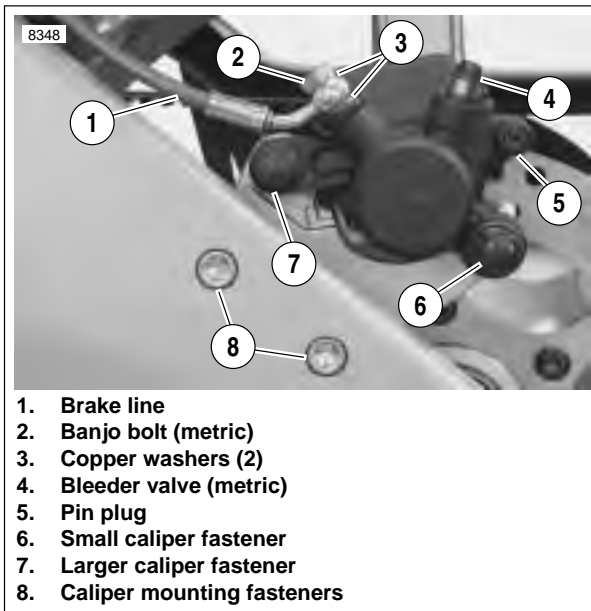

Figure 2-57. Rear Brake Caliper
4. See Figure 2-57. Connect brake light switch connector beneath seat. See D.1 HOSE AND WIRE ROUTING for brake line routing.
3. See Figure 2-57. Remove caliper mounting fasteners (6 and 7).
1. See Figure 2-57. Remove pin plug (5) and pad hanger (metric) to free brake pads.
1. See Figure 2-57. Install caliper assembly on caliper mount. Brake pad surfaces must face rear brake rotor.
- a. Install large caliper screw (7) (metric) tightening to 18-21 ft-lbs (24-28 Nm).
- b. Install small caliper screw (6) (metric) tightening to 14-18 ft-lbs (19-24 Nm).
2. See Figure 2-57. Connect brake line (1) to caliper using two new copper washers (3) and banjo bolt (2) (metric). Tighten to 16-20 ft-lbs (22-27).